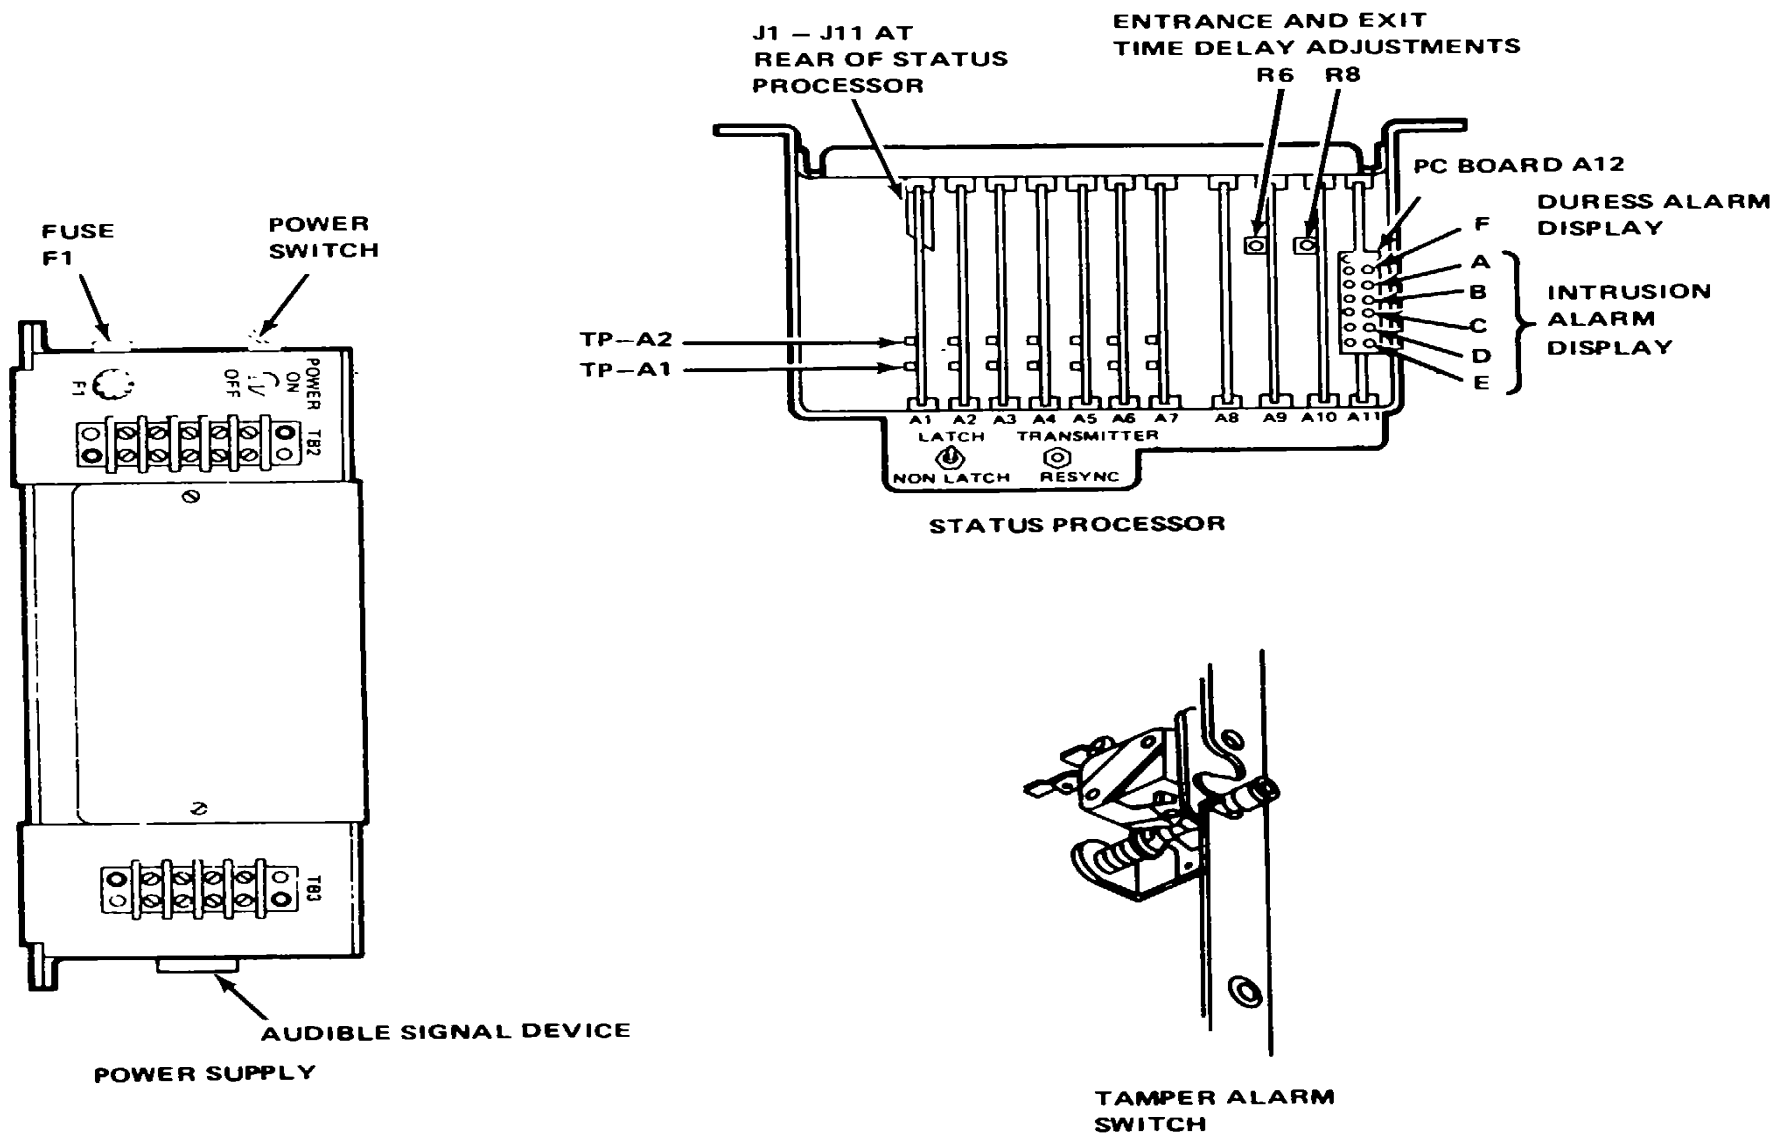

Figure 5-1. Maintenance Controls and Indicators
- (6) Inspect all metal surfaces intended to be painted for condition of finish and legibility of panel lettering.
- (7) Inspect varistors for evidence of physical damage or overheating. Check varistors by disconnecting one lead of each varistor from TB1. Set multimeter to ohms and connect meter leads to varistor. Meter should indicate over 100,000 ohms.
f. Refer to figures 5-1, 5-2, 5-3, 5-4, and FO-1 and table 5-1 for maintenance controls, parts locations and identification, and wiring diagram and test points referred to in table 5-2 troubleshooting procedures.